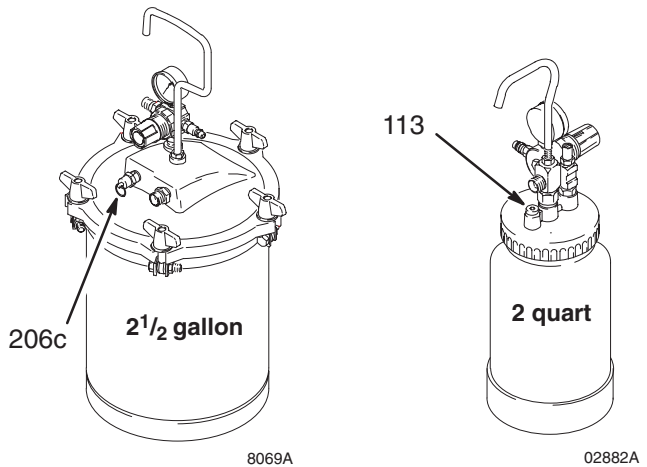

Fig. 6
3. If using remote pressure pot, relieve pressure by following these steps (see Fig. 6):